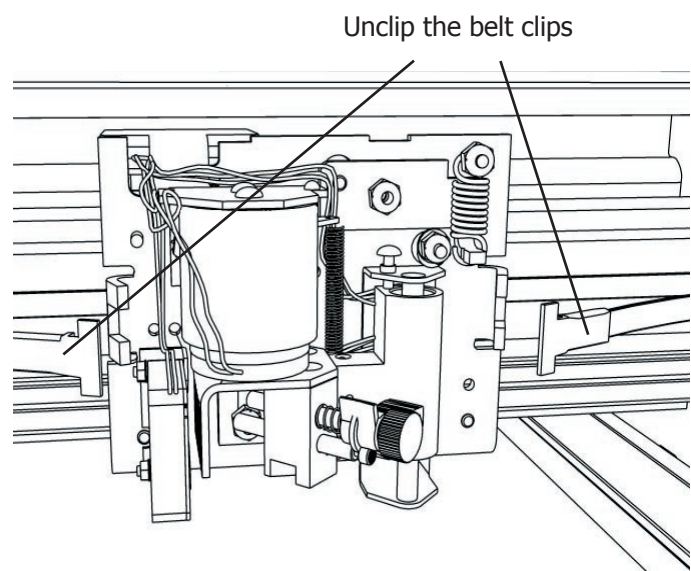

Fig. 2 -Removing the "Y" axis belt from the carriage
- 2) Un clip the belt clip from the carriage assembly. See Fig. 2